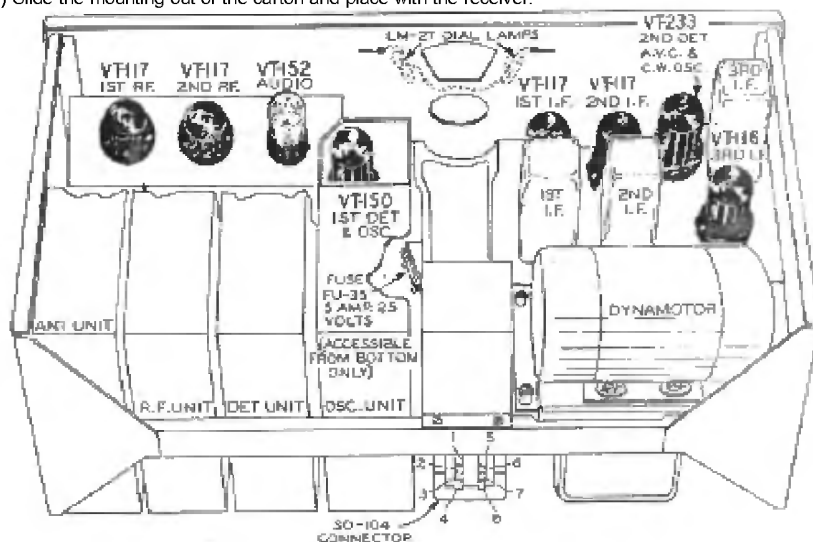

Figure 2 - Radio receiver BC-348-J, Tube Positions
- (1) Figure 2 shows the position of each tube, dial lamp and fuse. Before the receiver is installed, loosen the thumbscrews in the lower part of the handles on the front panel and pull the chassis from the cabinet. Make certain the tubes are well pushed down and firmly seated, and that the fuse and dial lamps are correctly and securely inserted.
- (2) The dynamotor and the electrical connections to the dynamotor must be securely fastened in position. The dynamotor is fastened by four mounting screws at the corners of the mounting plate and the electrical connections are made at a terminal strip accessible through a cutout in the left (from front of chassis) chassis end plate.